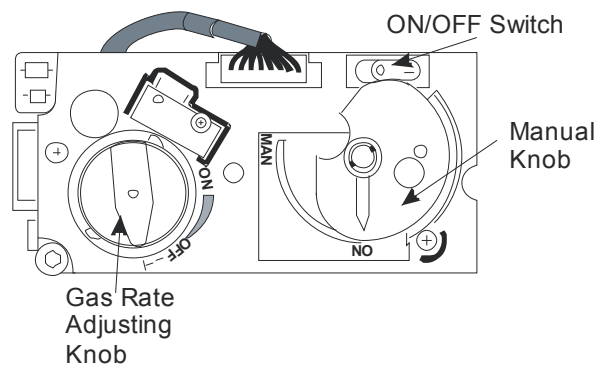

Figure 10 – Total Control Gas Valve
2. Simultaneously press and hold the ● (red circle) and 🔥 (large flame) buttons until a short acoustic signal confirms the start sequence has begun, then release the buttons (see **Figure 10**).